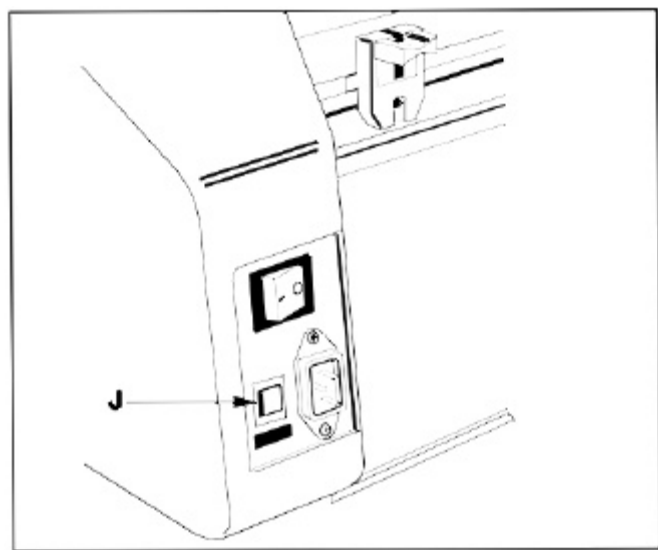

Fig. 4
J. CIRCUIT BREAKER: Electrical safety device, located on the back of the laminator near the power cord, can be reset by the operator if tripped (Figure 4).